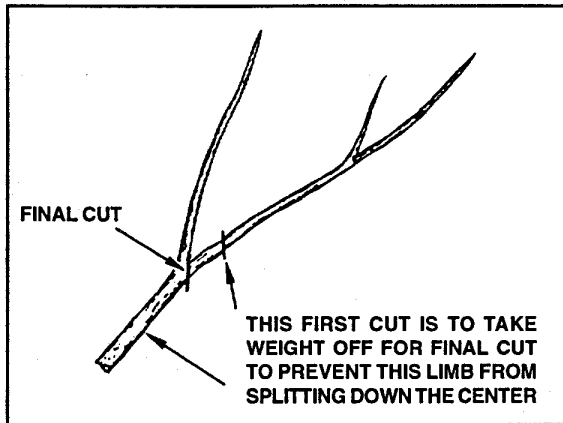
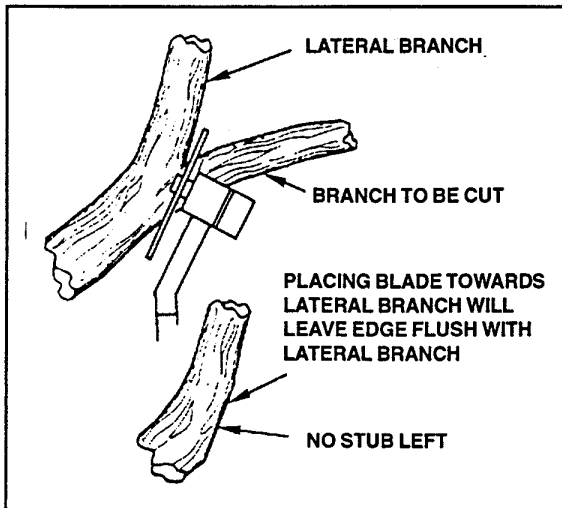

Figure 3. Flush Cutting a Limb Having a Tendency to Split or Tear.
Figure 4. Flush Cut
4. In sawing limbs which have a tendency to split or tear when making a single saw flush cut, (as in figure 3), it is advisable to make more than one cut. The first cut is made a few inches from the point of the flush cut, removing the weight of the limb being trimmed out and leaving a short stub. The stub is then flushed off as described in figure 4. Whenever practical, the cut shall be treated with tree paint if it is larger than 1 inch in diameter. This technique will